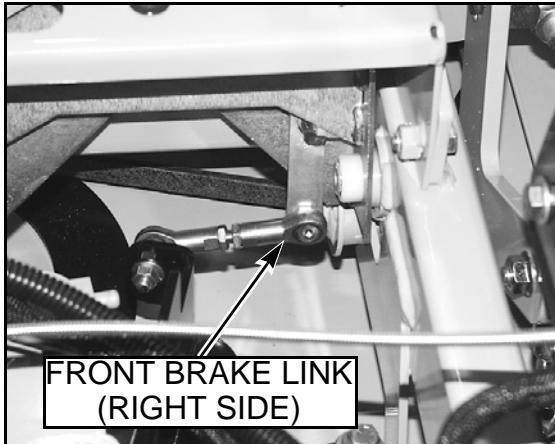

FIG. 26
**NOTE:** The front brake link is not adjustable. "FIG. 26"